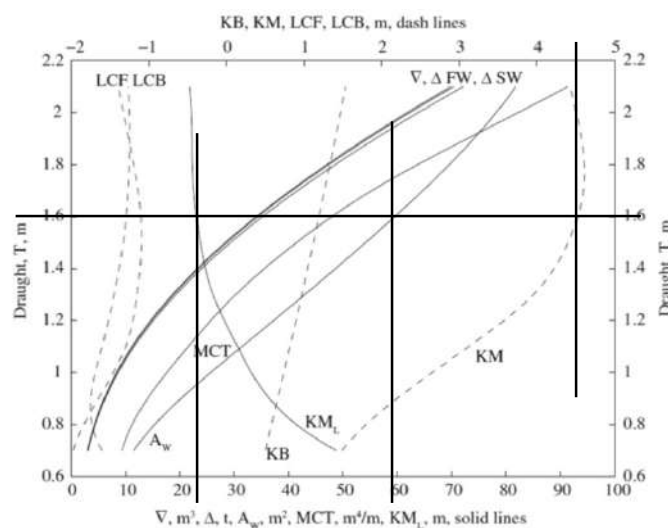

Figure 4.2 Hydrostatic curves of ship Lido 9
- Use Fig. 4.2 to find \overline{KM}_L (at T = 1.6 m). $\overline{KM}_L \cong 22.5$ m. Use that and \overline{KG} to draw \overline{GM}_L vs Draft.